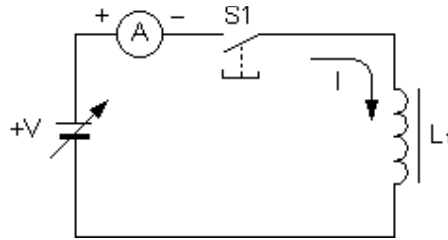
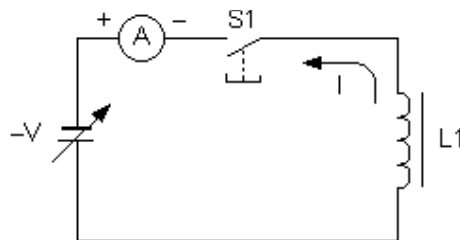

Fig. 5.2: Electrical diagram of positive voltage for electromagnetic
Fig. 5.3: Electrical diagram of negative voltage for electromagnetic
2. The electrical diagram as based on Fig.5.2 and Fig.5.3 for positive and negative voltage;